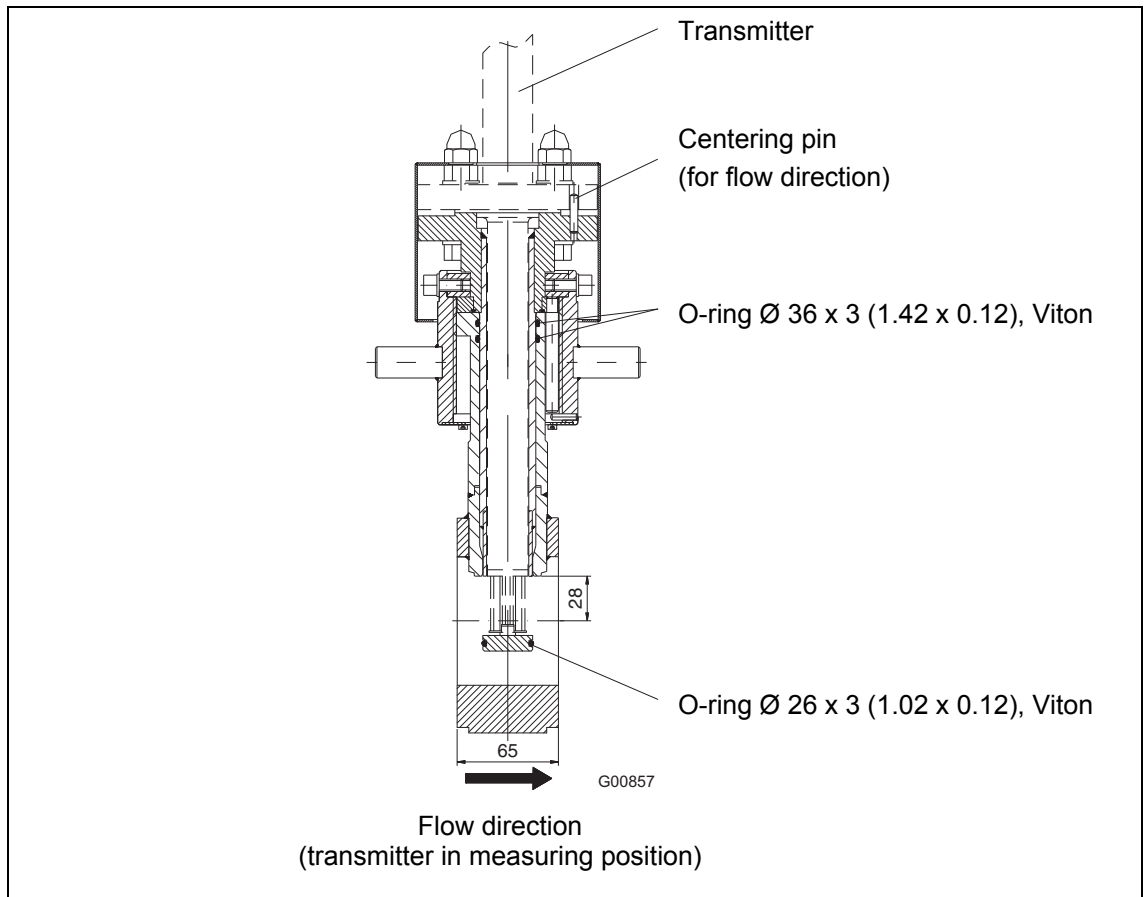

Fig. 13: Dimensions in mm (inches). Hot tap fitting with wafer design
- Replace the two internal Viton 36 x 3 mm (1.42 x 0.12) O-rings of the fitting and the Viton 26 x 3 mm (1.02 x 0.12) O-ring of the guide tube (see Fig. 13). Lightly lubricate the O-rings as well as the threads of the lock nut and slip ring of the guide tube. For oxygen applications, only approved O2 fittings grease may be used (e.g., Krytox GPL-226).